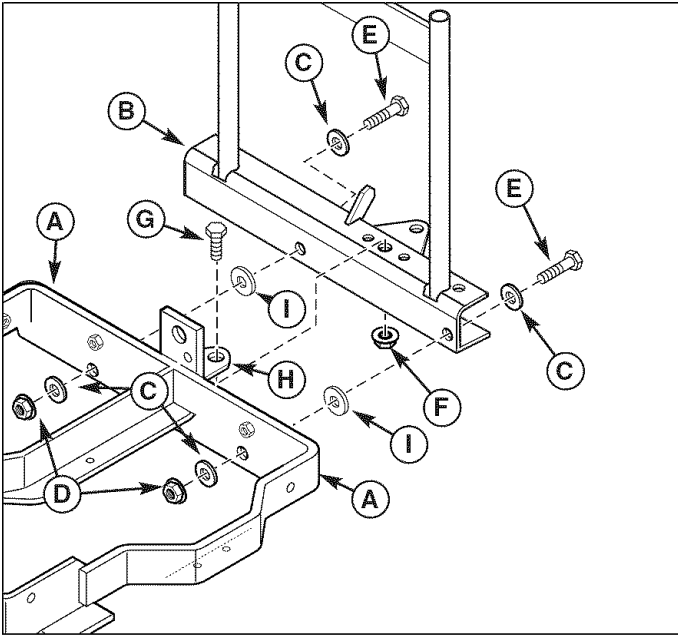

Figure 4. Install Hitch Assembly, without Weights
1. Attach hitch assembly (B, Figure 4) to frame (A). Secure with 3/8-16 x 1-3/8 cap screws (E), washers (I), washers (C) and nut (D) as shown. Finger tighten at this time.
2. Install 1/2-13 x 1-1/4 cap screw (G) through drawbar (H) and tighten.